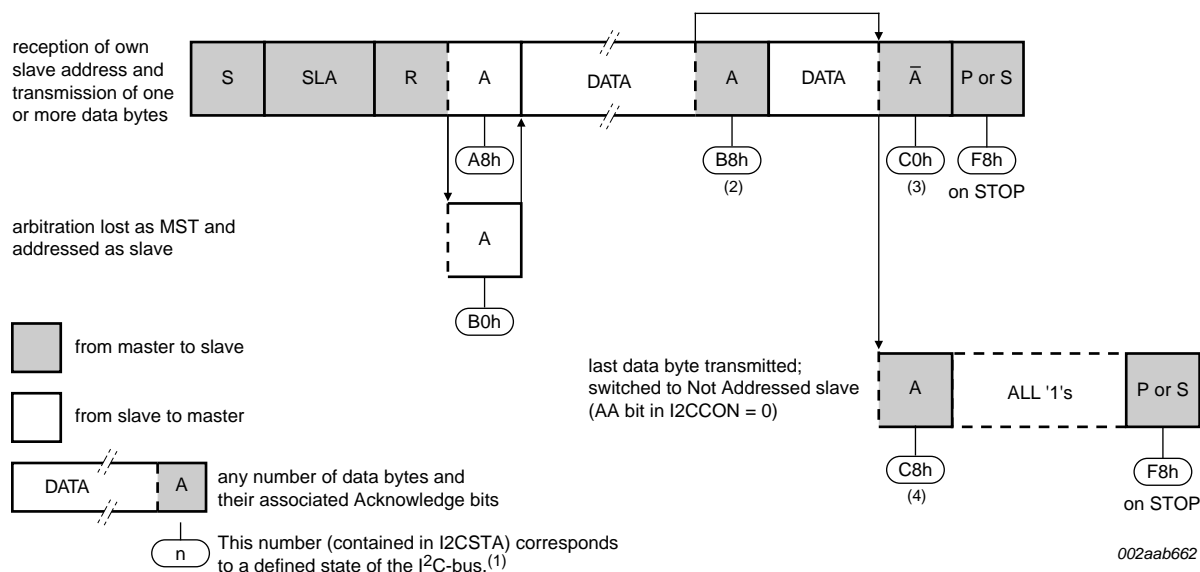

Fig 13. Format and states in the Slave Transmitter Buffered mode (MODE = 1)
In the Slave Transmitter Buffered mode, a number of data bytes are transmitted to a master receiver several bytes at a time (see Figure 13). Data transfer is initialized as in the Slave Receiver Buffered mode. When I2CADR and I2CCON have been initialized, the PCA9665/PCA9665A waits until it is addressed by its own slave address followed by the data direction bit which must be '1' (R) for the PCA9665/PCA9665A to operate in the Slave Transmitter mode. After its own slave address and the R bit have been received, the Serial Interrupt flag (SI) is set, the Interrupt line ( $\overline{\text{INT}}$ ) goes LOW and I2CSTA is loaded with A8h. This status code is used to vector to an interrupt service routine, and the appropriate action to be taken is detailed in Table 41.